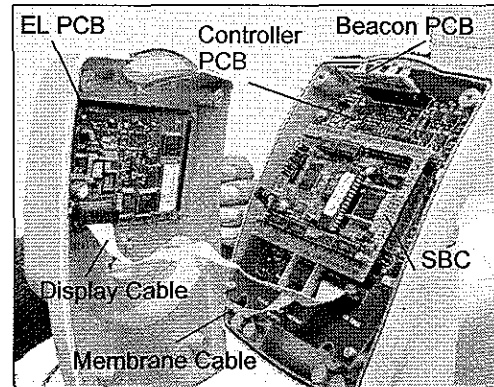

Figure 5-4b: Injector Controller
3. Gently lift the Front Enclosure just a few inches and disconnect the two cables (Membrane Panel Cable and Display to Controller PCB Ribbon Cable) from the Controller PCB (see Figure 5-4b).
1. Connect the two cables from the Front Enclosure (Membrane Panel Cable and Display to Controller PCB Ribbon Cable) to the Controller PCB (see Figure 5-4b).